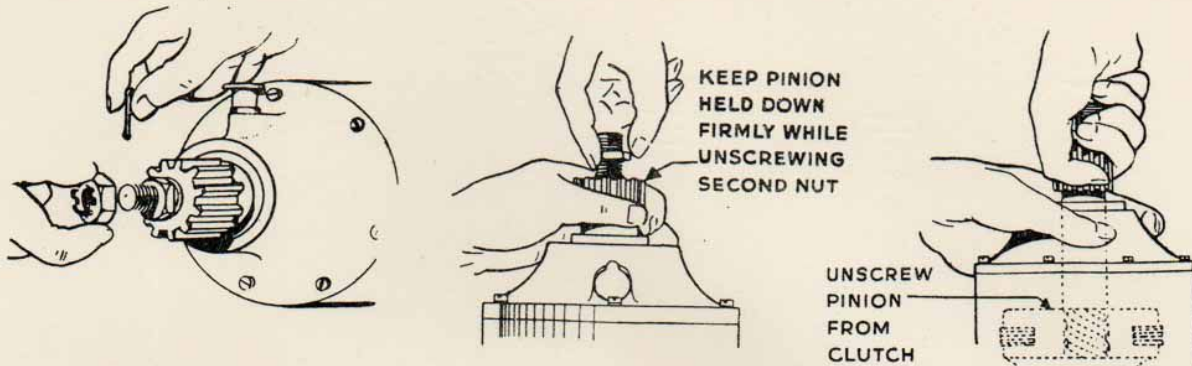

FIG.18. RENEWING STARTER MOTOR PINION.
1. Remove split pin and castellated nut (Fig18) from shaft.